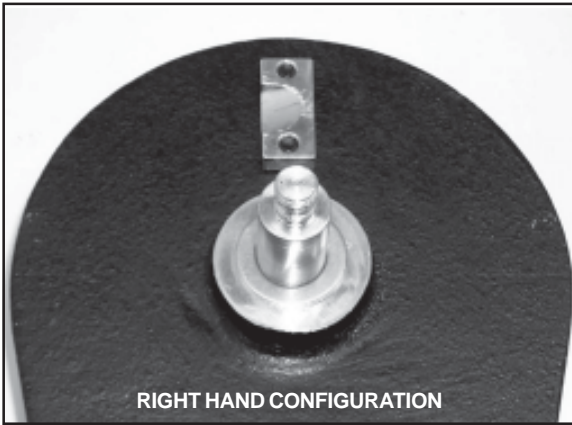

FIGURE 64
- 8- Reinstall the Index Ramp in the proper orientation for your mounting configuration as shown in Figures 64 & 65.